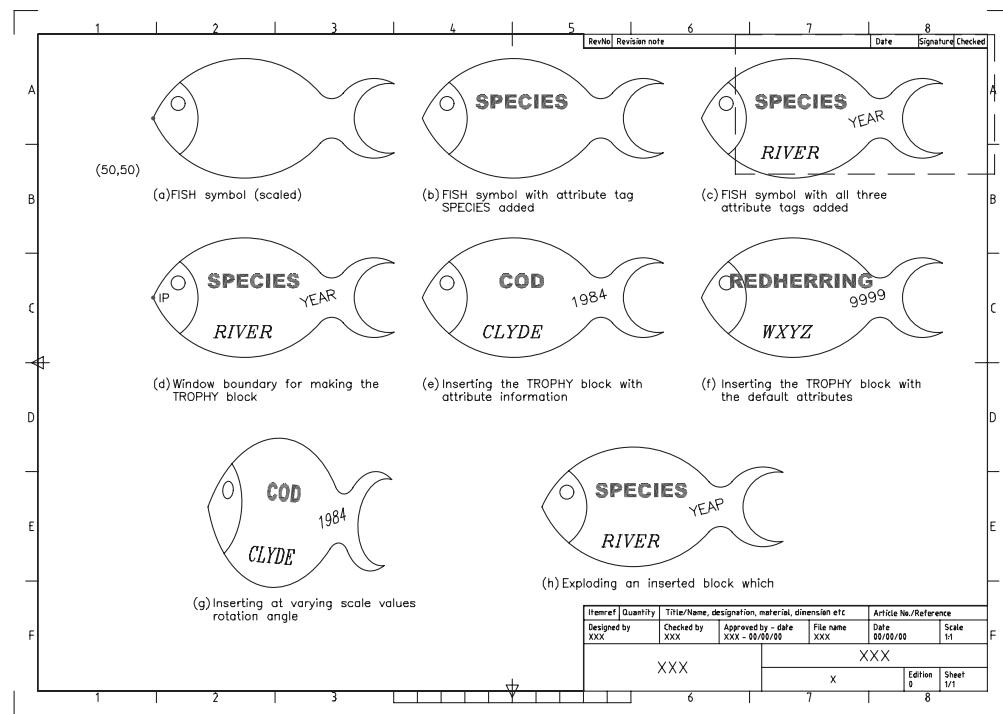

Figure 28.7 Making and using the attribute block TROPHY.
- 4 Open the C:\MYCAD\FISH drawing created during chapter 22 and refer to Figure 28.7.
b) Scale the shape about the point (50,50) by 0.5 – Figure 28.7(a)
- The attribute tag SPECIES will be displayed in the fish symbol as Figure 28.7(b).
- 5 When all the attribute information has been entered, the fish symbol will display the three tags – Figure 28.7(c)
- Objects: 1. select and window the symbol and attributes as Figure 28.7(d) then right-click
- 6 The fish trophy symbol will be displayed with the attribute information as Figure 28.7(e)
- a) any suitable point, full size with 0 rotation and accept the default values i.e. right-click or <R> at each attribute prompt line – Figure 28.7(f)
- b) another point on the screen with the X scale factor as 0.75, the Y scale factor as 1.25, the rotation angle -5. Use the same attribute entries as step 5 i.e. COD, CLYDE and 1984. The result should be as Figure 28.7(g).
- 9 Explode any inserted block which contains attribute information and the tags will be displayed – Figure 28.7(h).